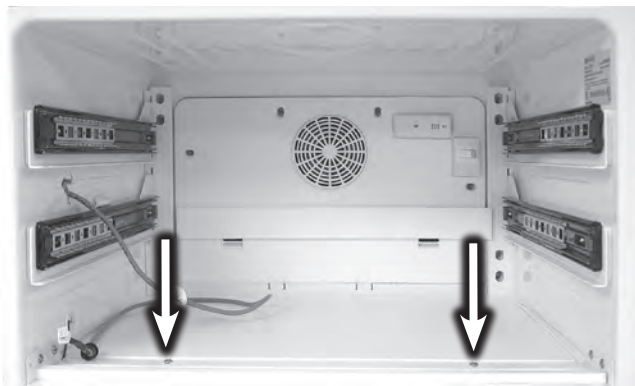

Figure 1
1. Remove the two screws securing the separator to the mullion rail, see figure 1.